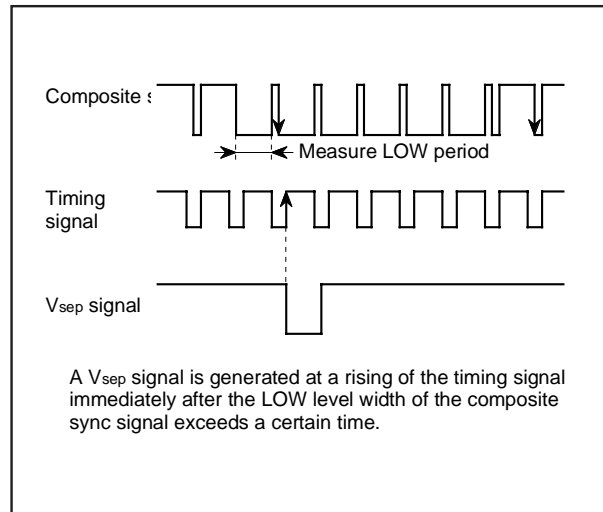

Fig. 8.10.6 V_{sep} Generating Timing (method 2)
- Method 2 The LOW level width of the composite sync signal is measured. If this width exceeds a certain time, it is detected whether a falling of the composite sync signal exists or not in the LOW level period of the timing signal immediately after this LOW level. If a falling exists, a V_{sep} signal is generated in synchronization with the rising of the timing signal (refer to Figure 8.10.6).
Figure 8.10.6 shows a V_{sep} generating timing. The timing signal shown in the figure is generated from the reference clock which the timing generating circuit outputs.